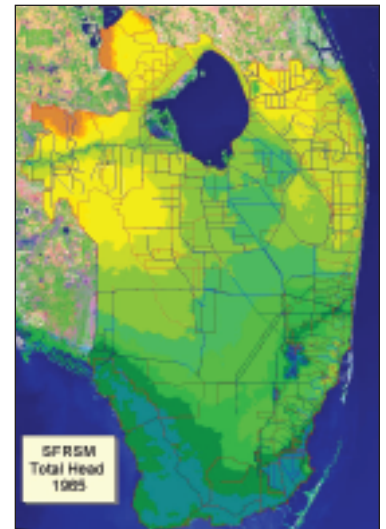

Figure 2
7. SFRSM will simulate all primary and some secondary canals (Fig. 2)